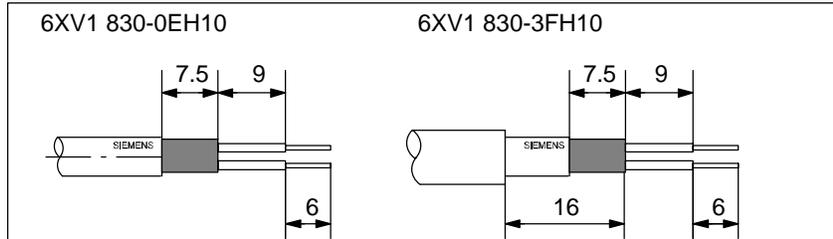

Figure 4-16 Cable Stripped for Connection to Bus Connector (6ES7 972-0B.11 ...)
1. Strip the LAN cable as shown in Figure 4-16 using the FastConnect stripping tool (sizes and lengths are shown in the table on the rear of the tool).